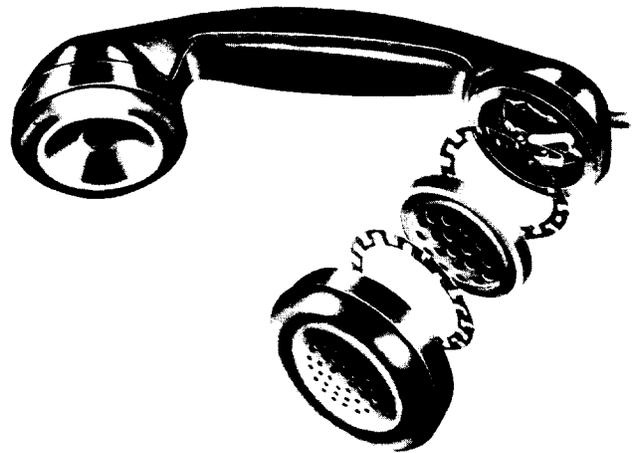

**Fig. 4—Correct Positioning of 514-Type Tool**
**2.06** Use a 514-type tool (Fig. 4) to tighten caps when installing locking devices.